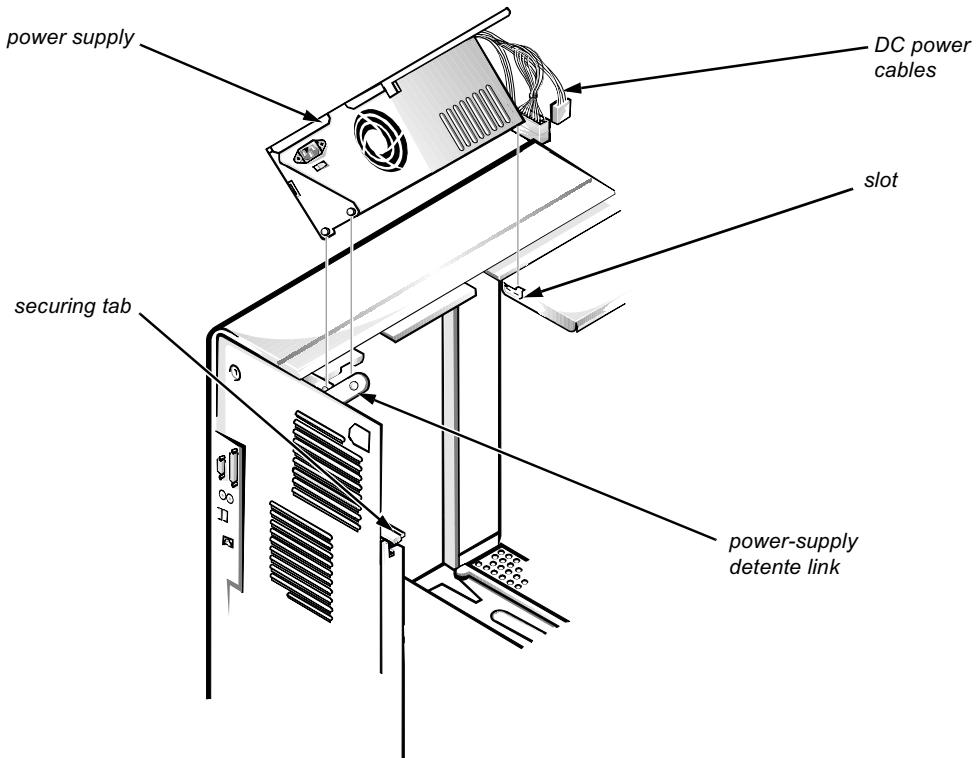

Figure 6-15. System Power-Supply Removal
- 1. Unlatch and rotate the power supply until it locks (see Figure 6-15).**
- 3. Unlatch and rotate the power supply until it locks (see Figure 6-15).**